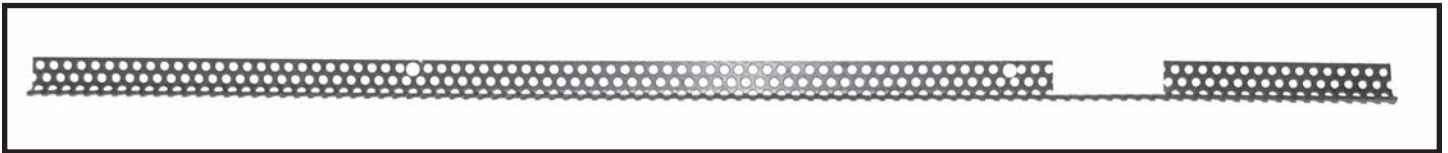
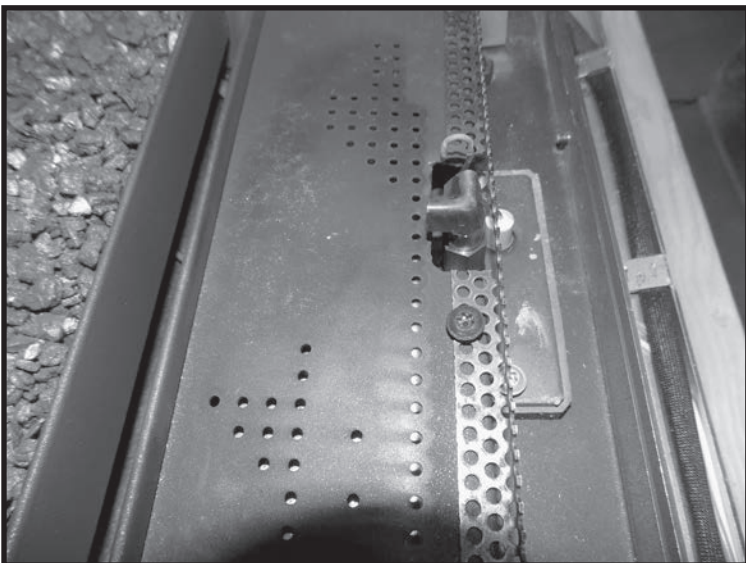

Figure 69: Front mesh guard.
Figure 70: Front mesh guard in place.
4. Place the front mesh guard (Figure 69) along the front edge of the front burner. Secure with supplied screws. Fit the guards' gap around the pilot assembly (Figure 70).